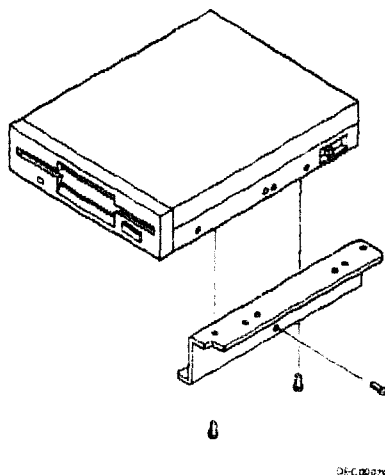

Figure 3-19 - Attaching a 3½-Inch Diskette Drive to the Mounting Adapter
7. Attach the mounting adapter to the new 3½-inch device (see Figure 3-19). Also, make sure its drive ID is set to 1. Refer to the supplied kit installation instructions for the appropriate drive ID locations.